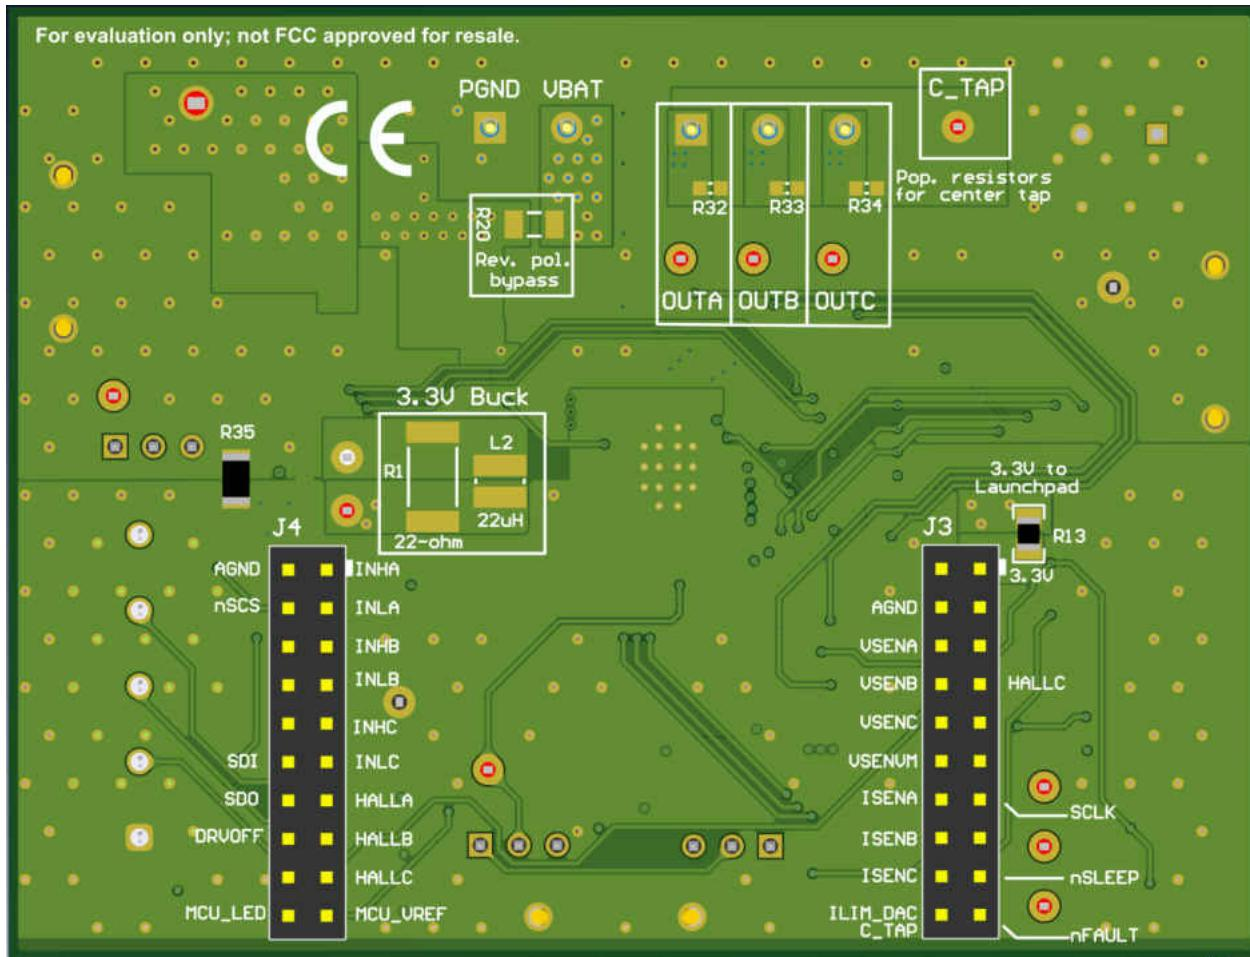

Figure 5-1. Bottom Silk Screen Shows Names of Pins When Using an External MCU
6. If using the DRV8316xEVM with an external microcontroller, make the logic-level connections needed on the male headers on the top of the board or female connectors on the bottom side of the board. The signal names are labeled on the bottom side of the board for convenience as Figure 5-1 shows.